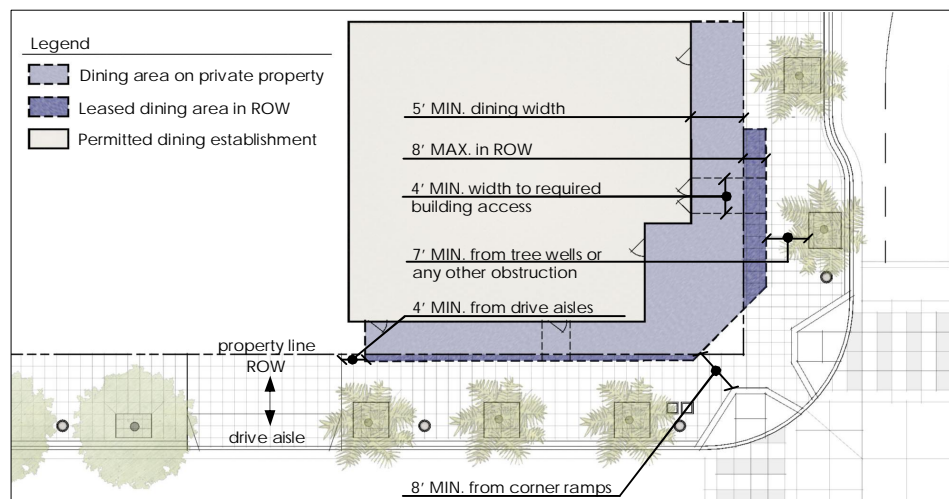

Figure 3.1
- Detailed site plan on 8 ½" x 11" or larger paper. The extents of the proposed dining area, all sidewalk obstructions, building entrances, public right-of-way and pedestrian access shall be noted and detailed dimensions shall be clearly shown (see Figures 3.1 and 3.4 as examples). The plan must be consistent with the spatial standards in Section 3.1.
Dining enclosures on the north side of Pardall Road shall conform to the following standards, or will be subject to review by SBAR (see figures 3.1 through 3.3):